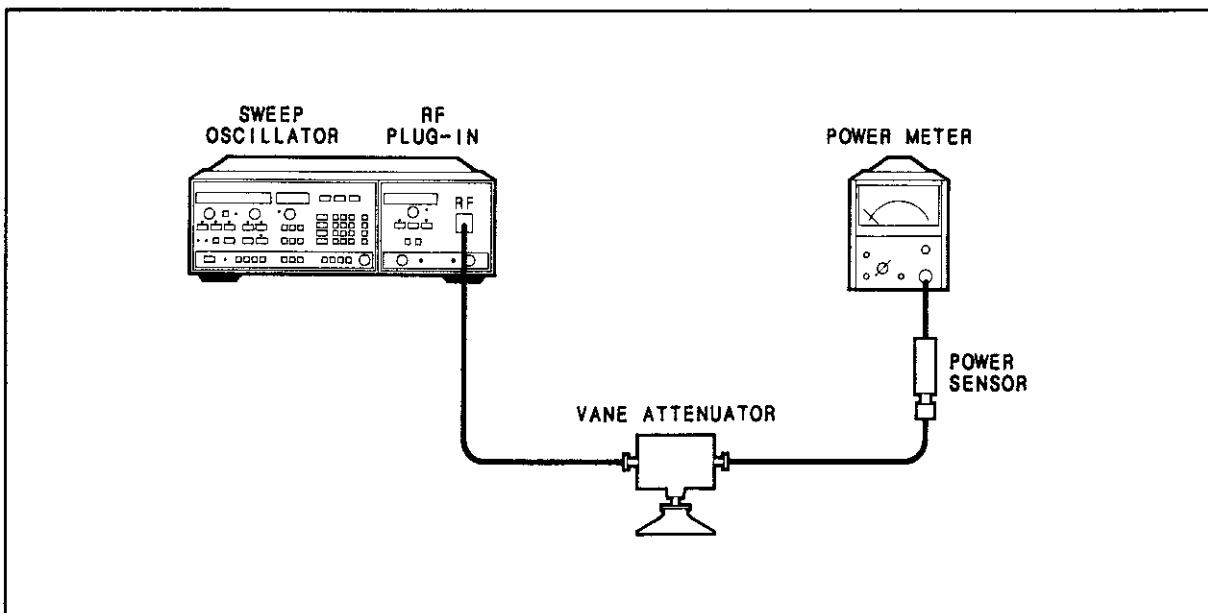

Figure 4-3. Output Amplitude Test Setup
1. Connect the equipment as shown in Figure 4-3. Set the vane attenuator to 10 dB. Calibrate the power meter.